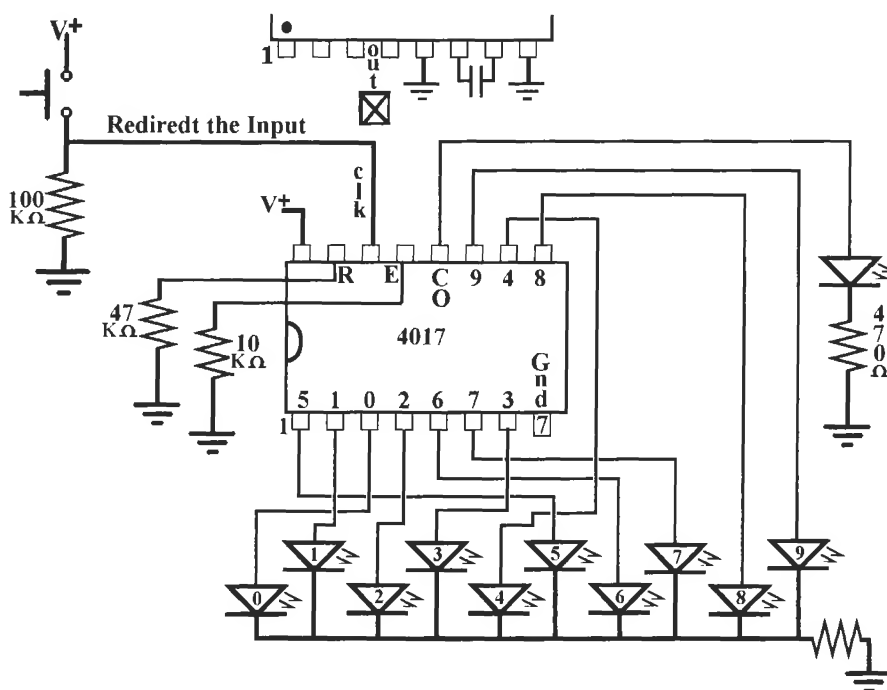

Figure L37-3
1. Attach a 100-kilo-ohm resistor and the PBNO to the clock input of the 4017 as shown in Figure L37-3.